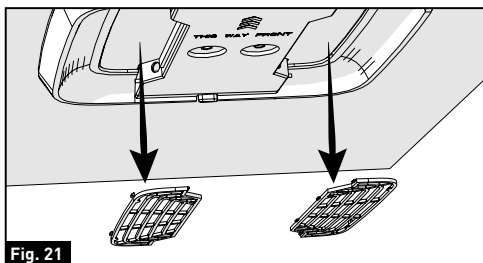

Fig. 21
2. Remove the filters by pushing the tabs to release. (Fig. 21)